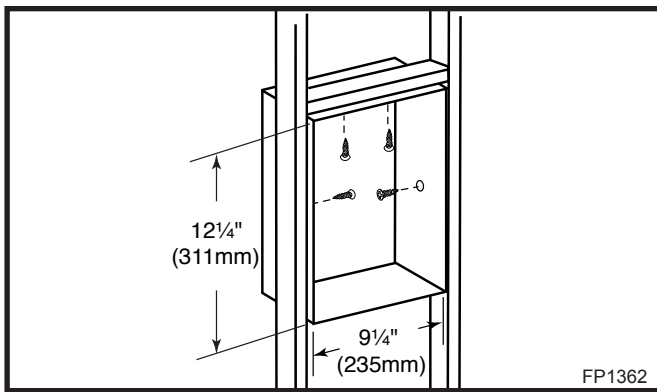

Fig. 8 Valve box framing.
Secure the box to the framing through the two (2) holes at the top and one (1) on each side using sheet rock screws. (Fig. 8) After framing the box, replace the wires, the valve cover, the extension knob(s) in reverse order.